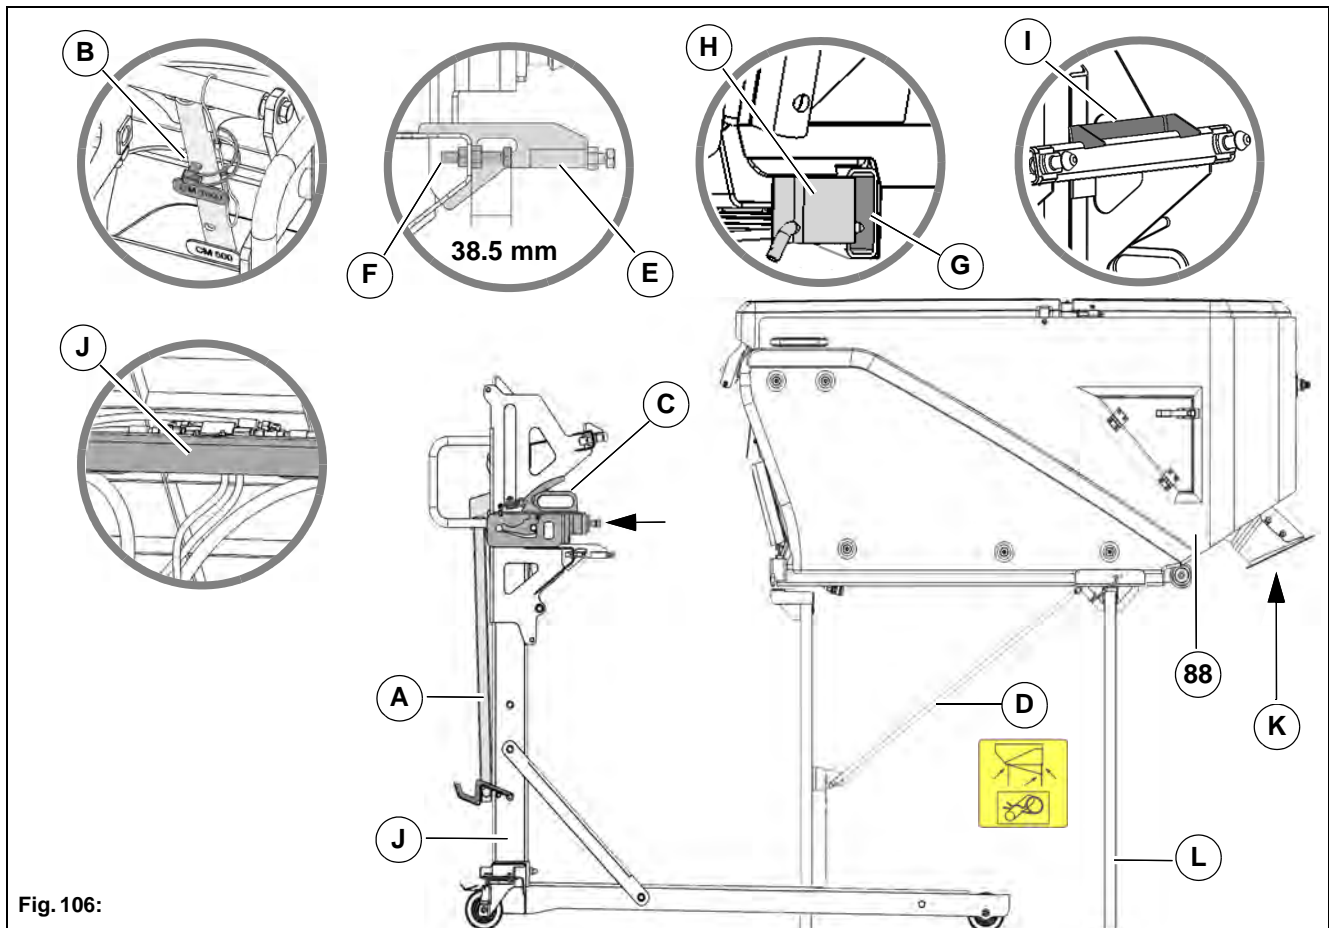

Fig. 106:
<p>Danger Risk of injury due to tilting over! Make sure that the cross strut Fig. 106-D (optional) has been inserted when transporting the dirt hopper on the supports Fig. 106-L. Secure the supports with bolts and splints.</p>
- 6 Push the trolley **Fig. 106-J** (optional) with the lower positioning aid **Fig. 106-E** into the spars **Fig. 106-G** and against the fixed bearings **Fig. 106-H** of the dirt hopper. The screw **Fig. 106-F** must be adjusted to 38.5 mm!
- 7 Carefully lower the lever **Fig. 106-A** of the trolley and make sure that the upper positioning aid **Fig. 106-I** sits behind the plate **Fig. 106-J** of the dirt hopper. Lock the lever.
- 8 Remove the supports **Fig. 106-L**. To do this, pull out the split pins and the bolts.
<p>Note During mounting protect the seal Fig. 106-K of the suction mouth with a cover plate.</p>